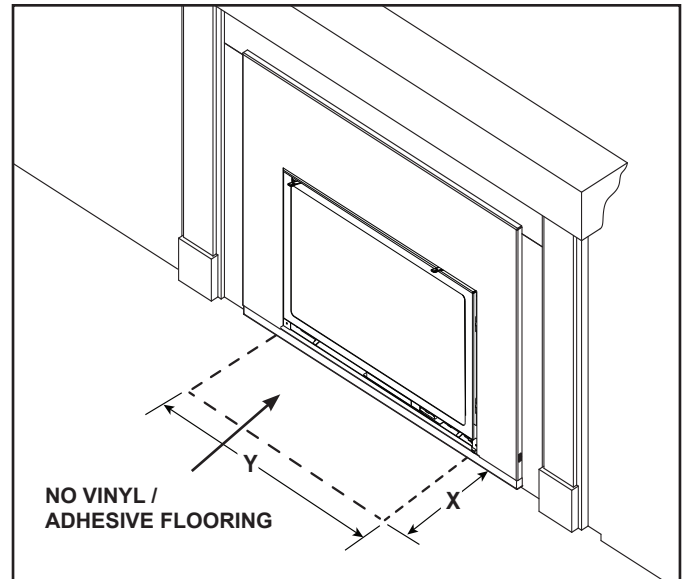

Figure 3.16 Hearth - Combustible Material Exception
- Combustible flooring may be located in front of the appliance. Exception - no vinyl / adhesive flooring. See Figure 3.16.